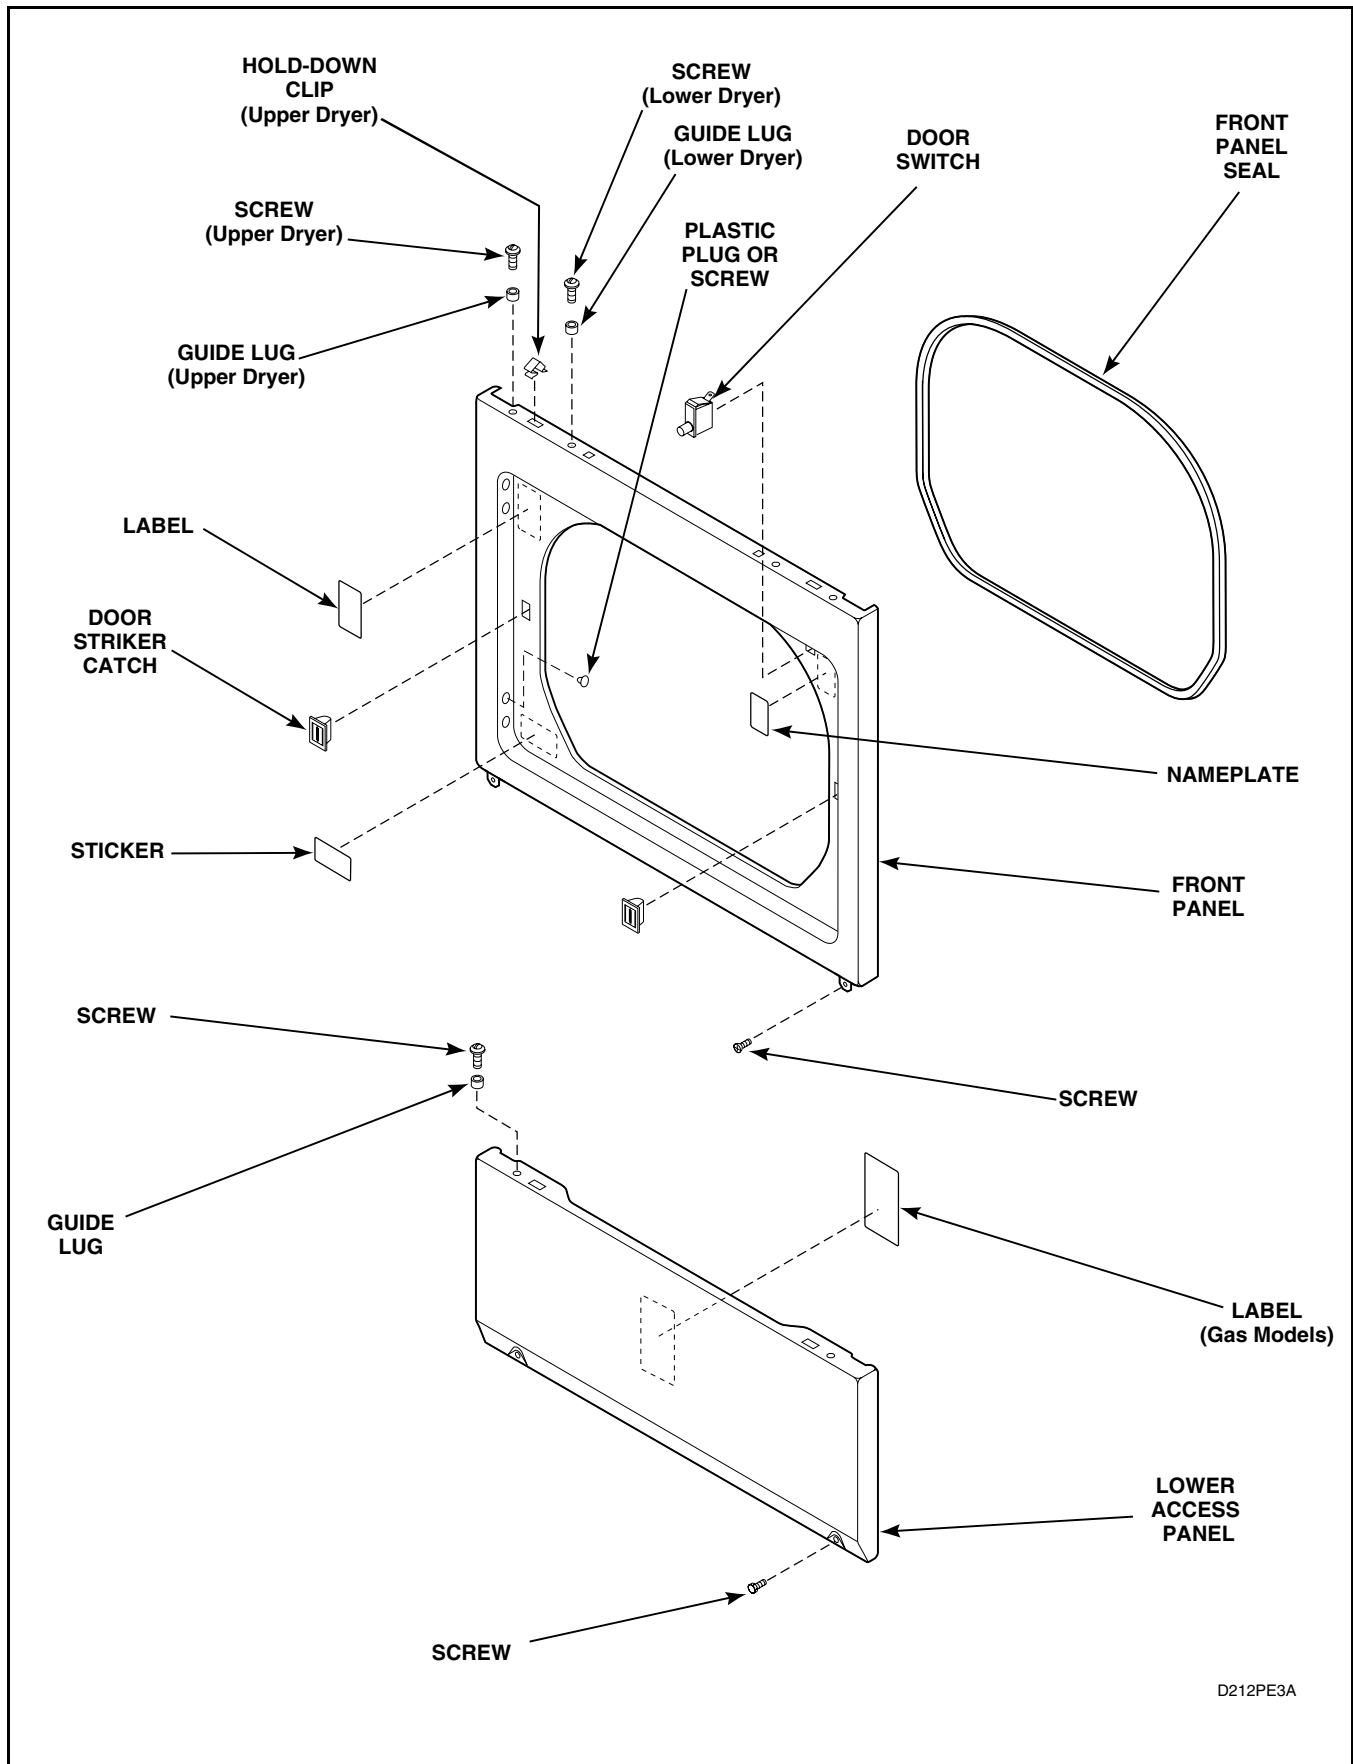

Figure 30
- e. Remove front panel seal from flange around inside of door opening. Refer to *Figure 30*.
- e. Depress tabs on top and bottom of door catch and push catch out of front panel. Refer to *Figure 30*.
- f. Remove screws holding guide lugs to front panel. Refer to *Figure 30*.